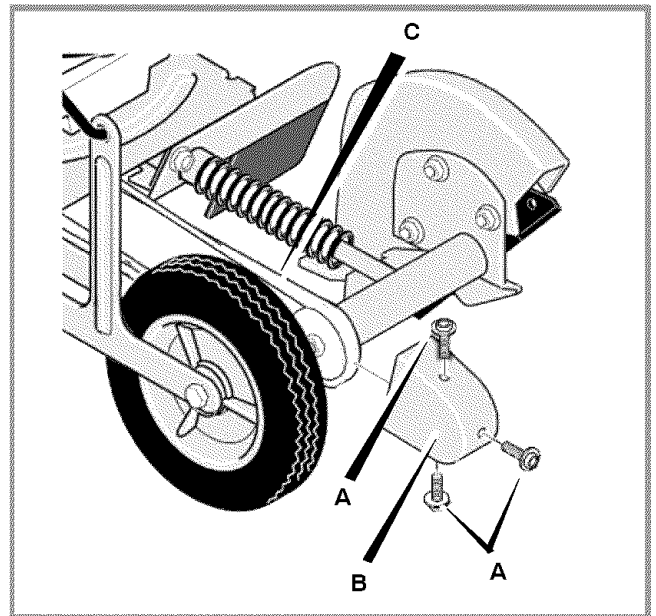

Figure 15: Belt Guard
- 3 Remove the screws (A) from the belt guard (B) (see Figure 15).